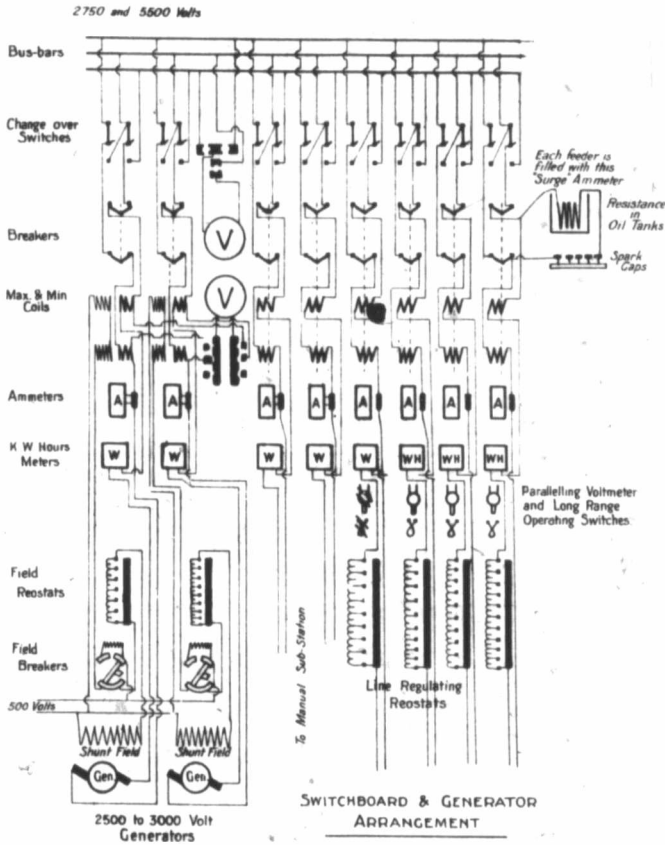

Fig. 1
*Switchboard.*—The switchboard (Fig. 1) consists of nine panels. They are of iron throughout, with mica washers and bushings. There are two generator panels, six feeder panels, and a voltmeter panel. The circuit breakers are D.P. air break, and are ranged along the top, with a slate division between each set. Immediately behind are the change-over switches, and above these the busbars. The generator switches are fitted with maximum and minimum cut-outs, the minimum coil being fed from the 500-volt shunt circuits. The feeder cut-outs are simple overload. At the bottom of the generator panels are the field rheostats and field breakers. Five of the feeder panels are fitted with line regulating resistances, L.T. long-range operating switch, and paralleling voltmeters for running the automatic sub-stations. The method and connections are shown on Fig. 3, and will be referred to later. Each feeder is fitted with a surge arrester, consisting of a series of spark gaps in series with an oil tank resistance. These arresters were installed after one of the lines had been twice broken down on charging. Lastly, the volt-